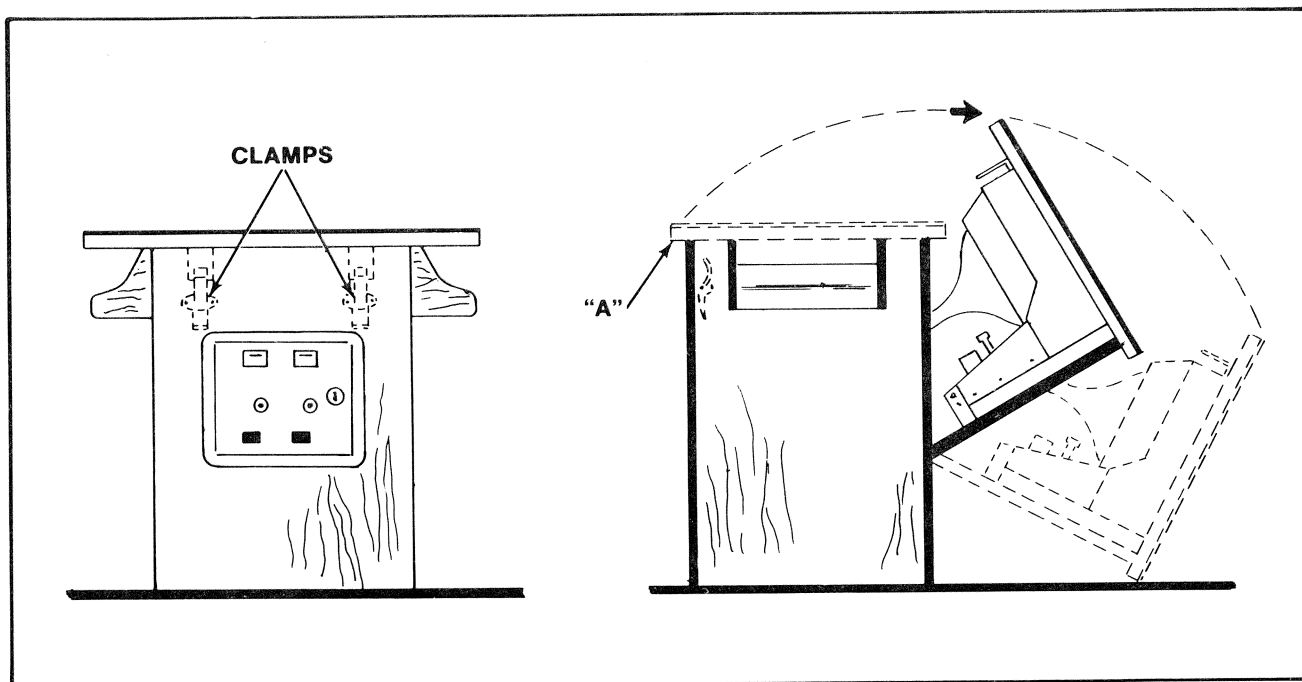

Figure 17 Opening Cocktail game
Open the coin box door and release the two latches indicated in Figure 17.
- Grasp the table top at "A" and open it as indicated in Figure 17.